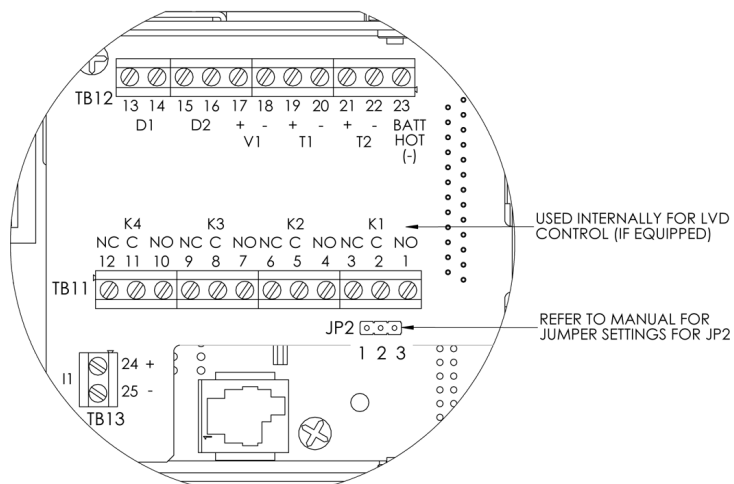

Figure 7—Location of LVD bypass jumper
- Locate JP2 on the back of CXCI system shelf (Figure 7)
- Locate JP2 on the back of CXCI+ system shelf (Figure 7)